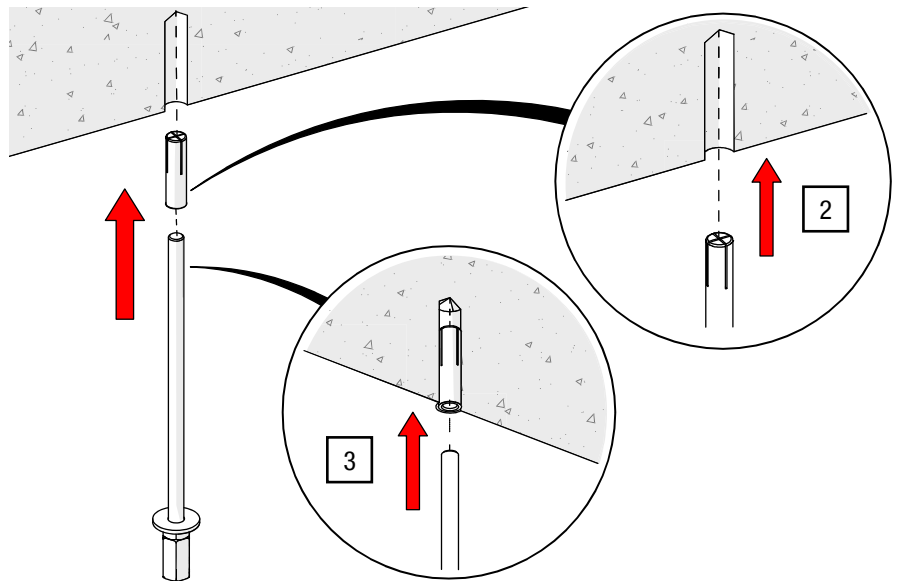

Fig. 34: Ceiling suspension – Mount drive-in anchor and threaded rod
2. Mount the M6×30 drive-in anchor in the concrete ceiling according to the manufacturer's specifications (see Fig. 34).
3. Pre-assemble the threaded rod, lock nut, coupling nut, and washer and screw them into the drive-in anchor using an open-end wrench AF 10 and 3 Nm (see Fig. 34; for screw-in depth, see *Chapter 3.4.4 Suspension with spacer tube (OFFICE) – tube and threaded rod* [► p. 26]).